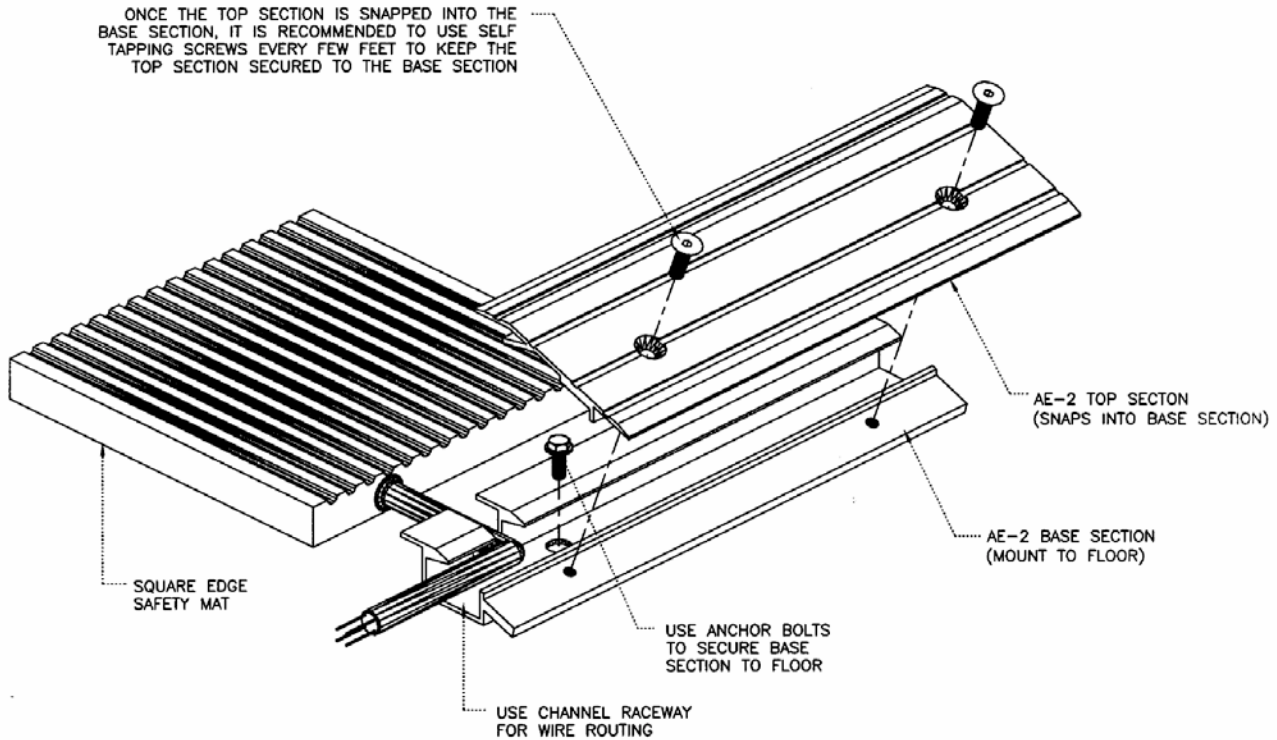

Figure 7B - AE-2 Aluminum Edge
Type AE-2 edging is illustrated in **Figure 7B**. The base is secured to the floor with anchor bolts and the top is secured to the base with self-tapping screws, as shown. This edging is mitered at the corners to maintain a ramped approach to the mat. The built-in wire raceway can accommodate two 4-conductor leads.
9. Place the aluminum covers into place on the base sections. Secure by snapping into place. It is recommended that the covers be secured to the bases with self-tapping screws as shown in **Figure 7B**.